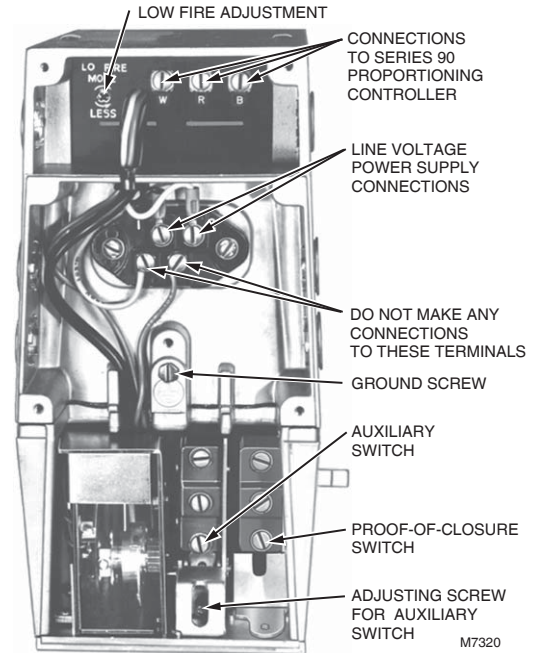

Fig. 3. Internal components and connections in V9055.
3. Insert the auxiliary switch in the position indicated in Fig. 3. Fasten with two screws through the actuator base.
4. Insert the proof-of-closure switch in the position shown in Fig. 3. The proof-of-closure switch mounts against the side of the actuator housing. The mounting holes are spaced to mount the switch only in the correct position. Fasten with two screws through the actuator base.
Connect power supply to terminals 1 and 2 on the terminal strip. Do not make any connections to the unmarked terminals shown in Fig. 3.
NOTE: When replacing a V9034, remove the 24 volt transformer because V9055 has a built-in transformer. When replacing a V9034 Actuator with a V9055, replace the V5034 Gas Valve with a V5055/V5097 Valve shown in Fig. 3.
The auxiliary switch is adjustable throughout the stroke of the actuator. With the switch installed in the actuator, turn the adjusting screw (Fig. 3) clockwise  to cause the switch to operate earlier in the stroke and counterclockwise  to operate later in the stroke.